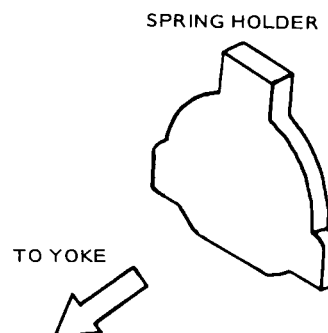

FIGURE 46. SPRING HOLDER
5. Place the lever spring and the spring holder into the front bracket in the direction shown in Figure 46.